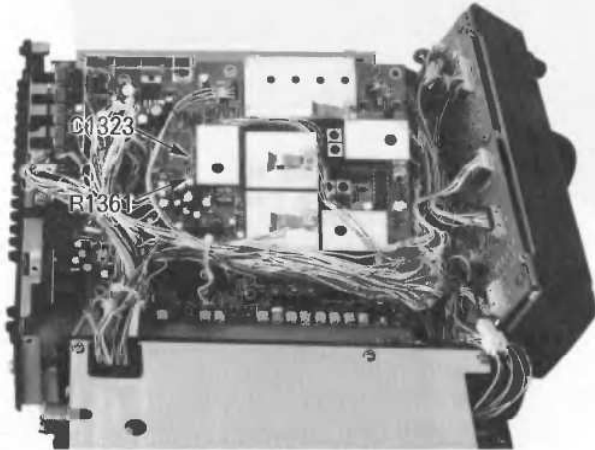

Figure 8: Local Unit Components to Remove
- ❑ Remove the seven screws shown in Figure 6 (note that one is next to the DVS-2 jack on the rear panel), and also remove the upper one of the two screws on either side of the front panel (Figure 7) and loosen the lower one (on each side), allowing the front panel to be folded forward so that the Local Unit can be lifted as shown in Figure 8 (next page).
- ❑ Referring to Figure 8, locate capacitor C1323 and resistor R1361 on the board just behind the oscillator housing. Cut the leads of these parts and remove them.